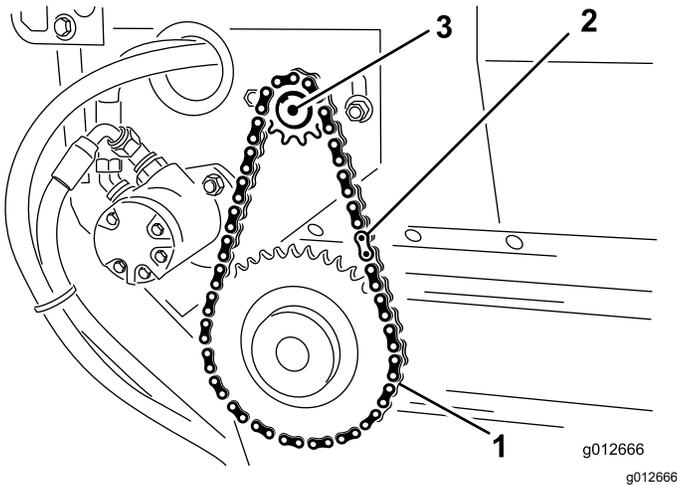

Figure 29
2. Remove master link from chain and remove chain from small sprocket (Figure 29).